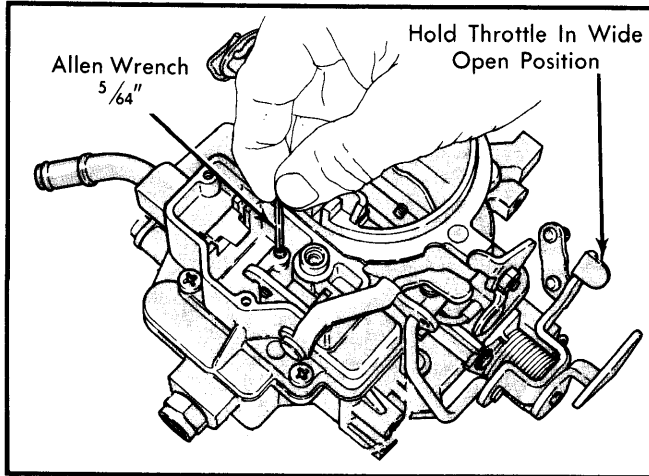

Fig. 6 Adjusting Mechanical Power Valve
1) Remove bowl vent valve cover and hold throttle lever in wide open position. See Fig. 6.